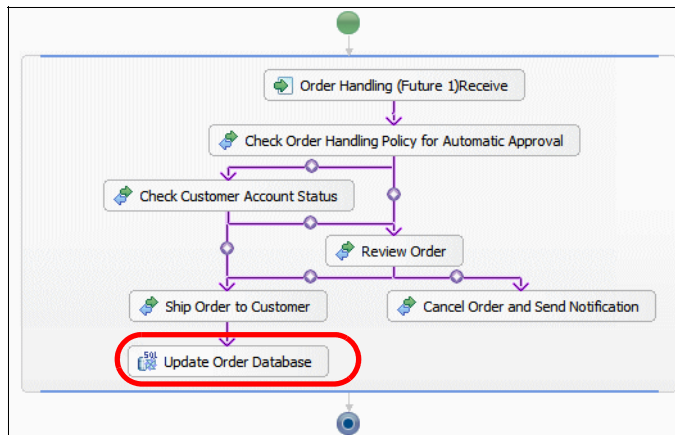

Figure 10-80 Changing an activity to an information service
- ▶ Select the Update Order Database activity in the business process editor. Select *Change Type* → *Information Service* (context menu) (Figure 10-80).